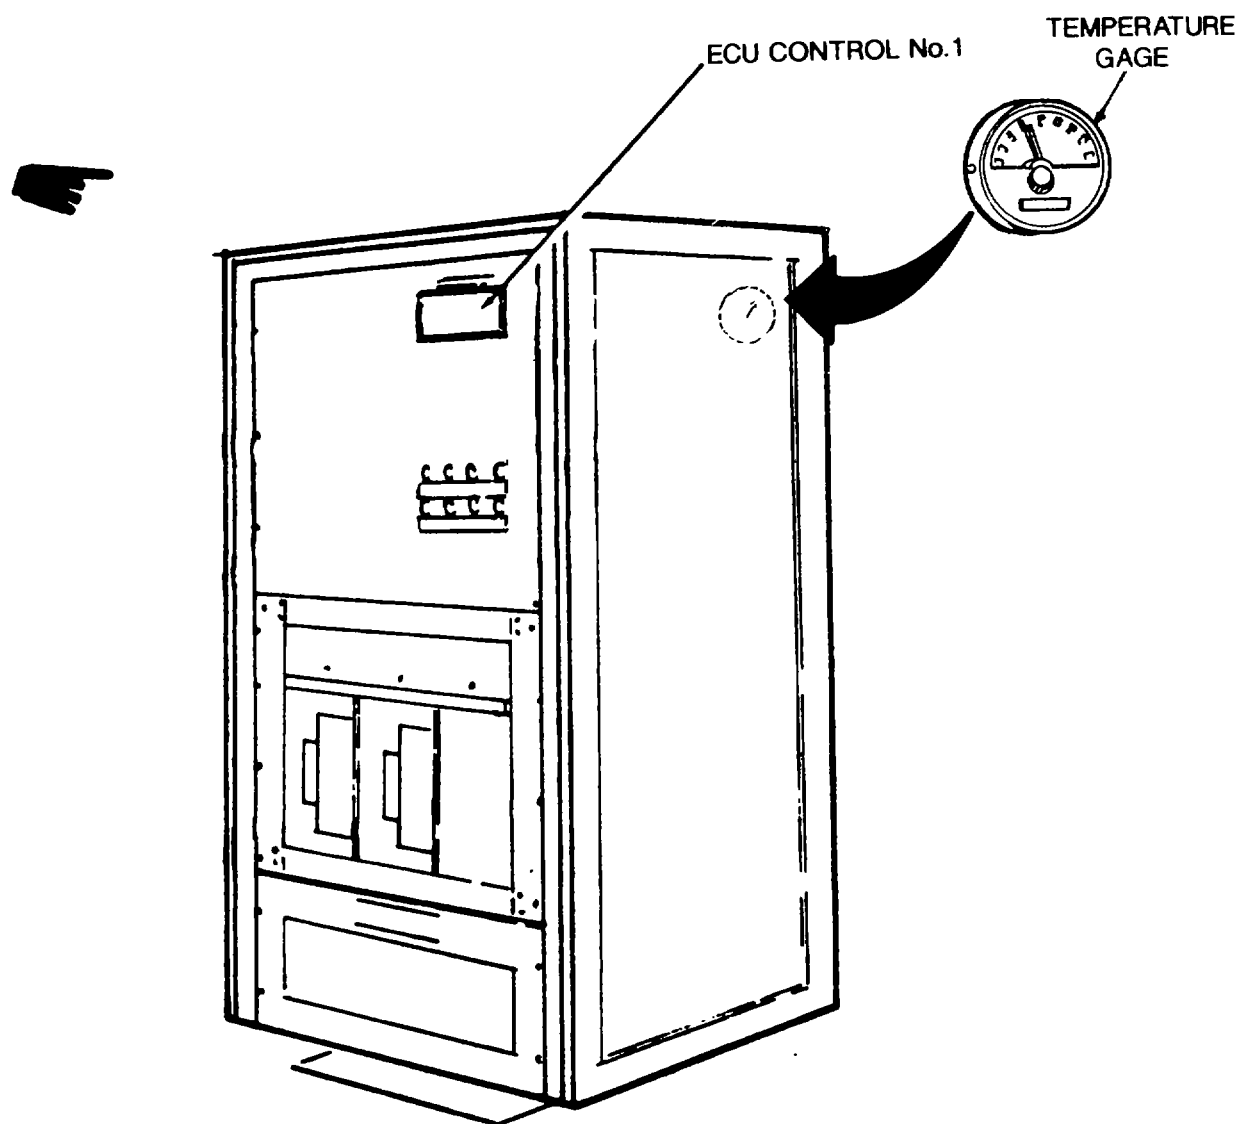

Figure 2-9. AOAP Computer Cabinet MICROVP-2
(16) The AOAP Standard Data System (Refer to Figure 2-9).